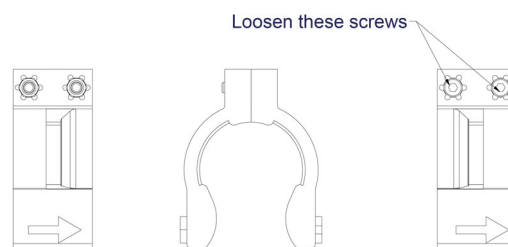

Figure 4 Tape Alignment Jig
2. Obtain the Tape alignment jig and loosen its screws using a 3mm hexagon wrench. Refer to **Figure 4**.